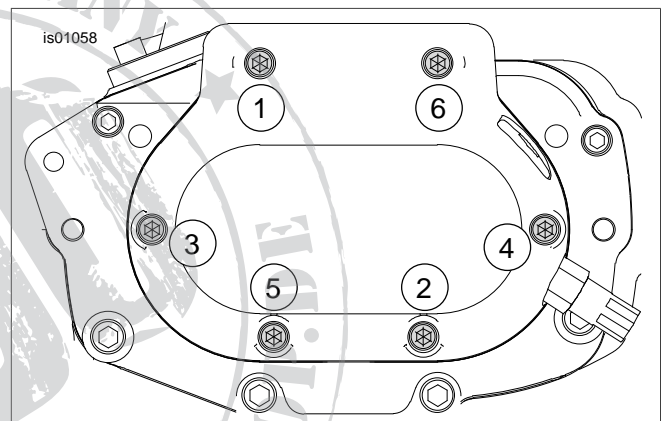

Figure 4. Clutch Release Cover Screws
- Install the retaining ring (1). Position the retaining ring opening so it is located approximately over the outer ramp tang (the stop that prevents rotation).
- See Figure 4. Place the **new** gasket (purchased separately) on the clutch release cover, and install the cover. Tighten the six screws in the order shown to 84-108 **in-lbs** (9.5-10.2 Nm).